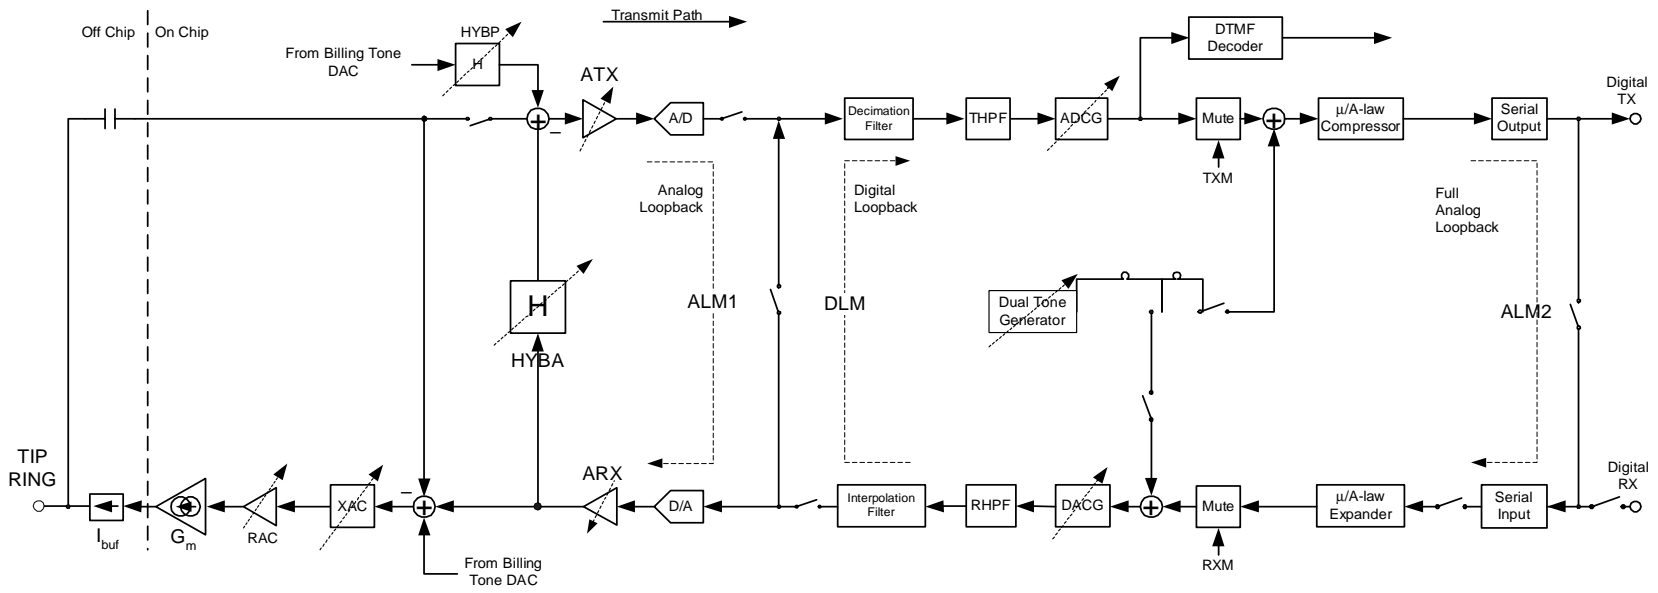

Figure 23. AC Signal Path Block Diagram
Unlike traditional SLICs, the codec function is integrated into the ProSLIC. The 16-bit codec offers programmable gain/attenuation blocks and several loop-back modes. The signal path block diagram is shown in Figure 23.
The block diagram for the voice-band signal processing paths are shown in Figure 23. Both the receive and the transmit paths employ the optimal combination of analog and digital signal processing to provide the maximum performance while, at the same time, offering sufficient flexibility to allow users to optimize for their particular application of the ProSLIC. All programmable signal-processing blocks are symbolically indicated in Figure 23 by a dashed arrow across them. The two-wire (TIP/RING) voice-band interface to the ProSLIC is implemented using a small number of external components. The receive path interface consists of a unity-gain current buffer, I_{BUF} , while the transmit path interface is simply an ac coupling capacitor. Signal paths, although implemented differentially, are shown as single-ended for simplicity.
The ProSLIC provides programmable transhybrid balance with gain block H. (See Figure 23.) In the ideal case where the synthesized SLIC impedance matches exactly the subscriber loop impedance, the transhybrid balance should be set to subtract a -6 dB level from the transmit path signal. The transhybrid balance gain can be adjusted from -2.77 dB to $+4.08$ dB around the ideal setting of -6 dB by programming the HYBA[2:0] bits of the Hybrid Control register (direct Register 11). Note that adjusting any of the analog or digital gain blocks will not require any modification of the transhybrid balance gain block, as the transhybrid gain is subtracted from the transmit path signal prior to any gain adjustment stages. The transhybrid balance can also be disabled, if desired, using the appropriate register setting.
- The full analog loopback (ALM2) tests almost all the circuitry of both the transmit and receive paths. The compressed 8-bit word transmit data stream is fed back serially to input of the receive path expander. (See Figure 23.) The signal path starts with the analog signal at the input of the transmit path and ends with an analog signal at the output of the
- An additional analog loopback (ALM1) takes the digital stream at the output of the A/D converter and feeds it back to the D/A converter. (See Figure 23.) The signal path starts with the analog signal at the input of the transmit path and ends with an analog signal at the output of the receive path. This loopback option allows the testing of the analog signal processing circuitry of the Si3210 completely independent from any activity in the DSP.
- The full digital loopback tests almost all the circuitry of both the transmit and receive paths. The analog signal at the output of the receive path is fed back to the input of the transmit path by way of the hybrid filter path. (See Figure 23.) The signal path starts with 8-bit PCM data input to the receive path and ends with 8-bit PCM data at the output of the transmit path. The user can bypass the companding process and interface directly to the 16-bit data.
Real and complex two-wire impedances are realized by internal feedback of a programmable amplifier (RAC) a switched capacitor network (XAC) and a transconductance amplifier (G_m). (See Figure 23.) RAC creates the real portion and XAC creates the imaginary portion of G_m 's input. G_m then creates a current that models the desired impedance value to the subscriber loop. The differential ac current is fed to the subscriber loop via the ITIPP and IRINGP pins through an off-chip current buffer (I_{BUF}), which is implemented using transistor Q1 and Q2 (see Figure on page 16). G_m is referenced to an off-chip resistor (R_{15}).